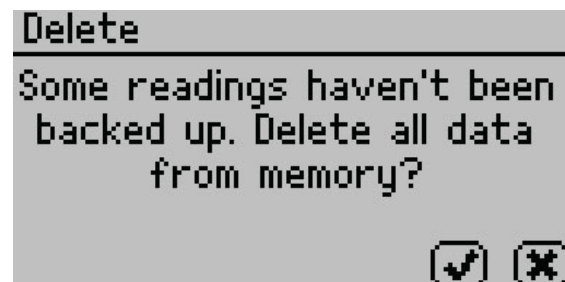

Figure 45 Delete option backup reminder dialog
- **Delete.** Select this option to delete all data currently stored in the instrument. Readings cannot be deleted individually. If the information has not been backed up with AquaLink 4, a reminder will appear (Figure 45).